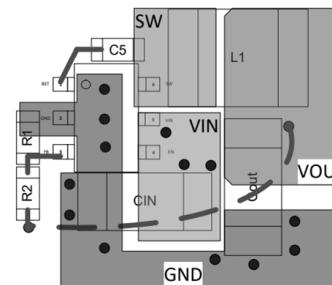

Figure 26. Recommended PCB Layout
- See Figure 26 for more details.